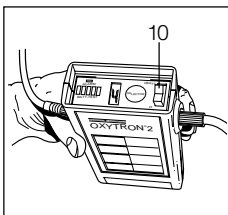

Fig. 16
- Turn the switch (10) to the "BATT" position (see Fig. 16). If the battery-voltage indicator is in the green zone, OXYTRON®2 is ready for use. Should the indicator comes into the yellow or the red zone, the battery must be changed.